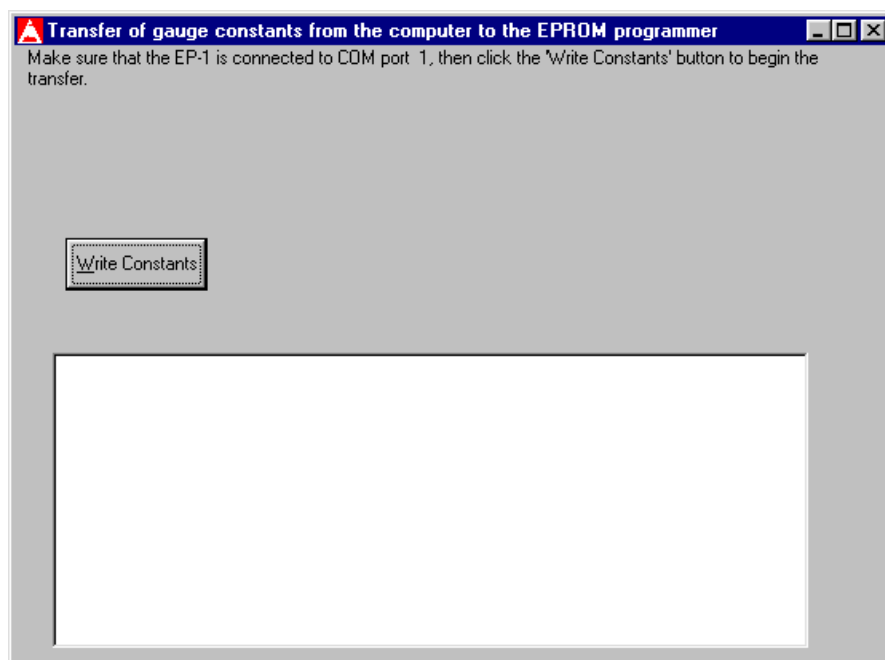

Figure 4–34. Transferring Gauge Constants from the Computer to the EP-1, Second Screen
24. If the computer has difficulty communicating with the EP-1, the program displays an error message similar to the one shown in Figure 4–12 on page 4–12. To abort the EPROM programming process and return to the **4640 Calibration Main Menu**, click the **<No>** button. To reset the communications settings, click the **<Yes>** button and proceed to step 25.